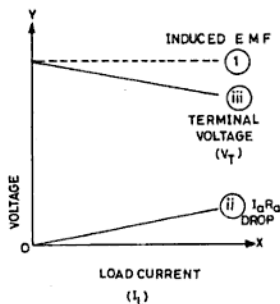

Fig. 7.8 Characteristics of magneto generator
**Characteristics of Magneto Generator** The characteristics of a magneto generator are shown in Fig. 7.8. Curve 1 is the OCC curve which gives the relation between the induced emf and the load current (in this case there is no field current and therefore,  $I_L = I_f$ ). As the induced emf is independent of the load current, the curve is a straight line parallel to the x-axis.